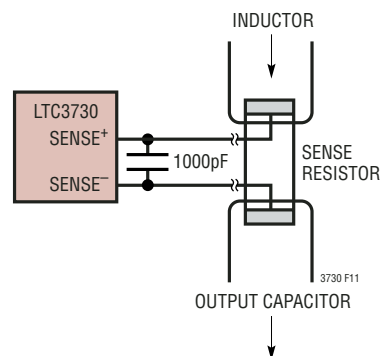

Figure 11. Kelvin Sensing  $R_{\text{SENSE}}$
3) Are the  $\text{SENSE}^-$  and  $\text{SENSE}^+$  printed circuit traces for each channel routed together with minimum PC trace spacing? The filter capacitors between  $\text{SENSE}^+$  and  $\text{SENSE}^-$  for each channel should be as close as possible to the pins of the IC. Connect the  $\text{SENSE}^-$  and  $\text{SENSE}^+$  pins to the pads of the sense resistor as illustrated in Figure 11.